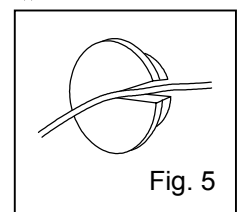

Fig. 5
7. Make a small cut on the rubber caps for capillary to pass. See Fig. 5